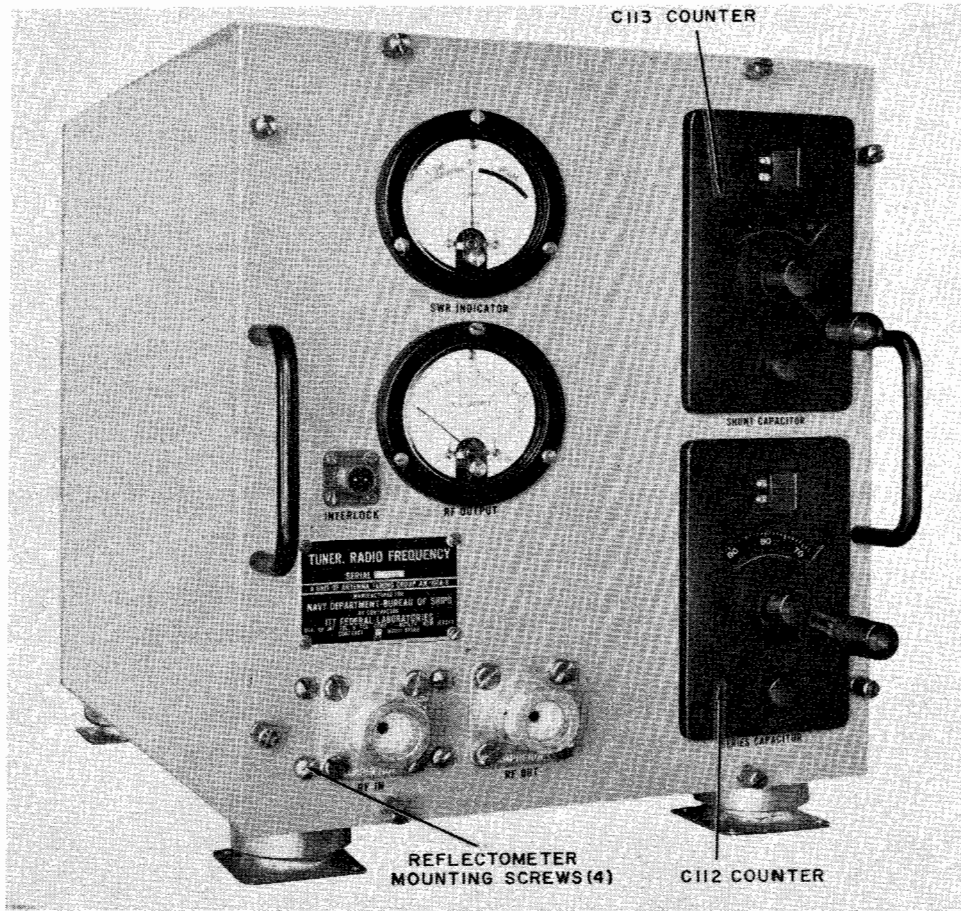

Figure 6-6. RF Tuner, Front View, Removal of Parts
(1) REFLECTOMETER. - Remove the reflectometer according to the following steps.
Step 1. Remove four screws holding RF IN jack J101 and remove the four screws holding the reflectometer to the front panel. (See figure 6-6.)
(4) FRONT PANEL. - Remove the front panel according to the following steps. (See figures 6-6, 6-7, and 6-8.)
(5) VACUUM CAPACITOR COUNTER ASSEMBLIES.